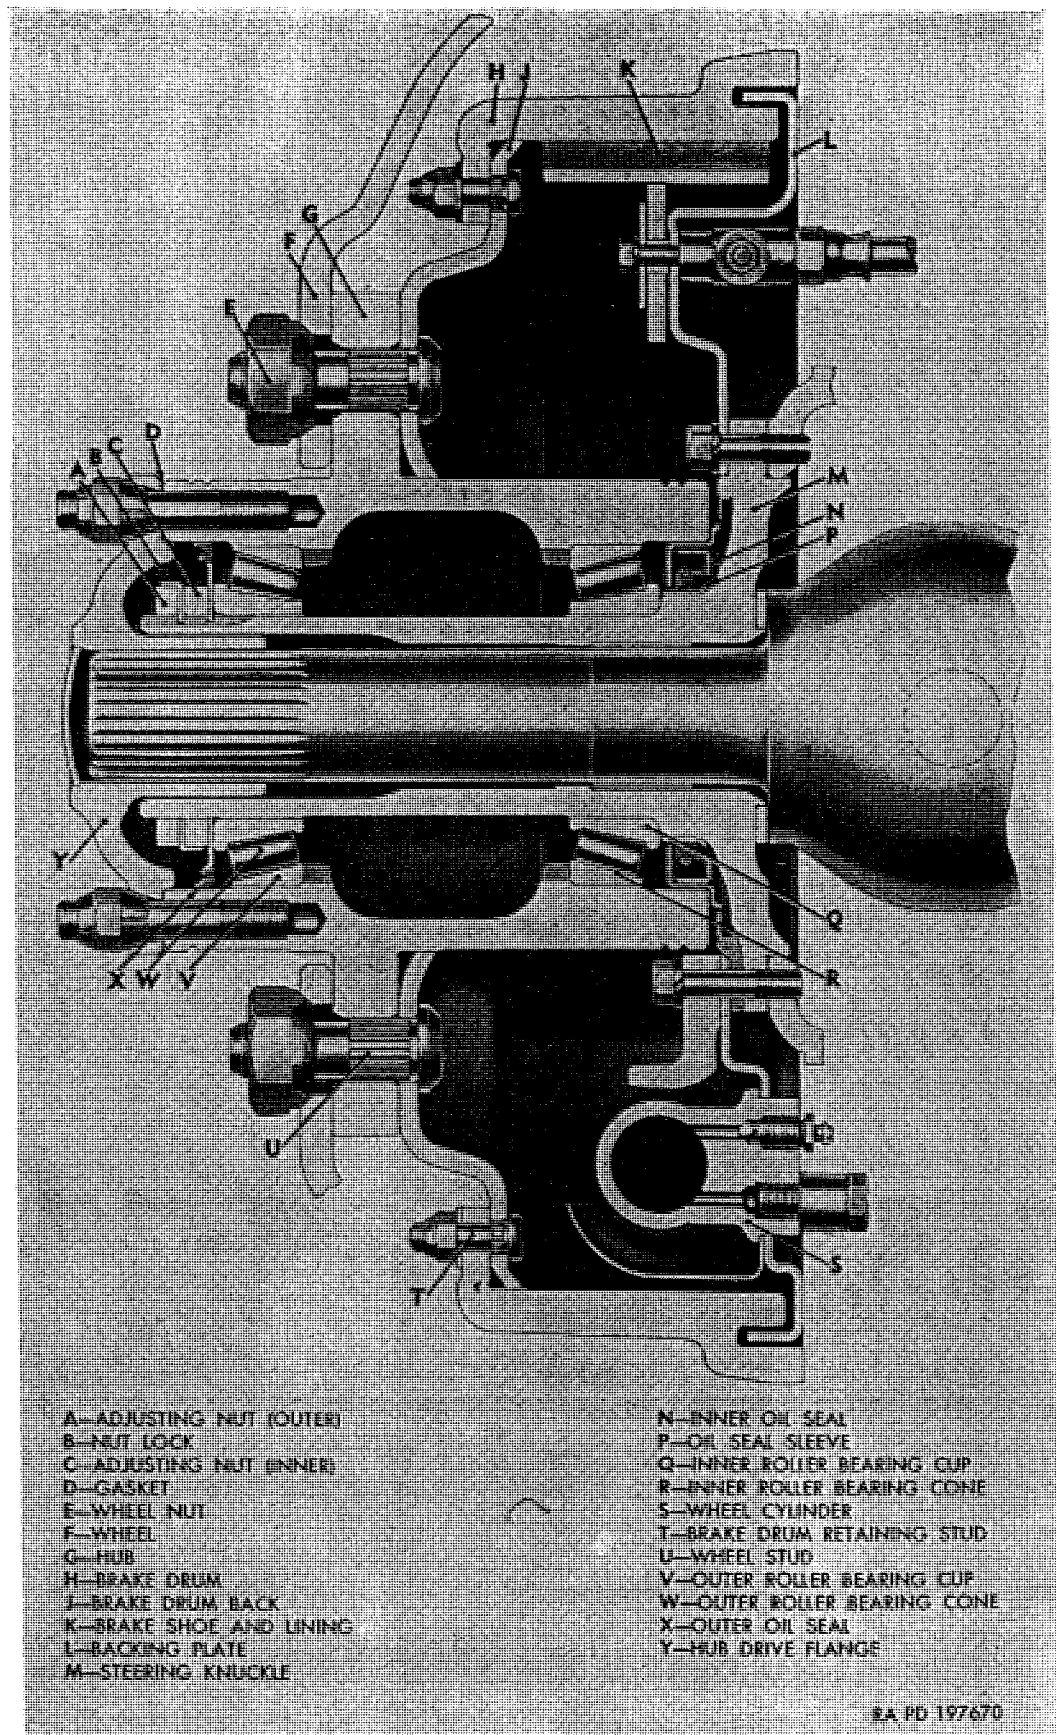
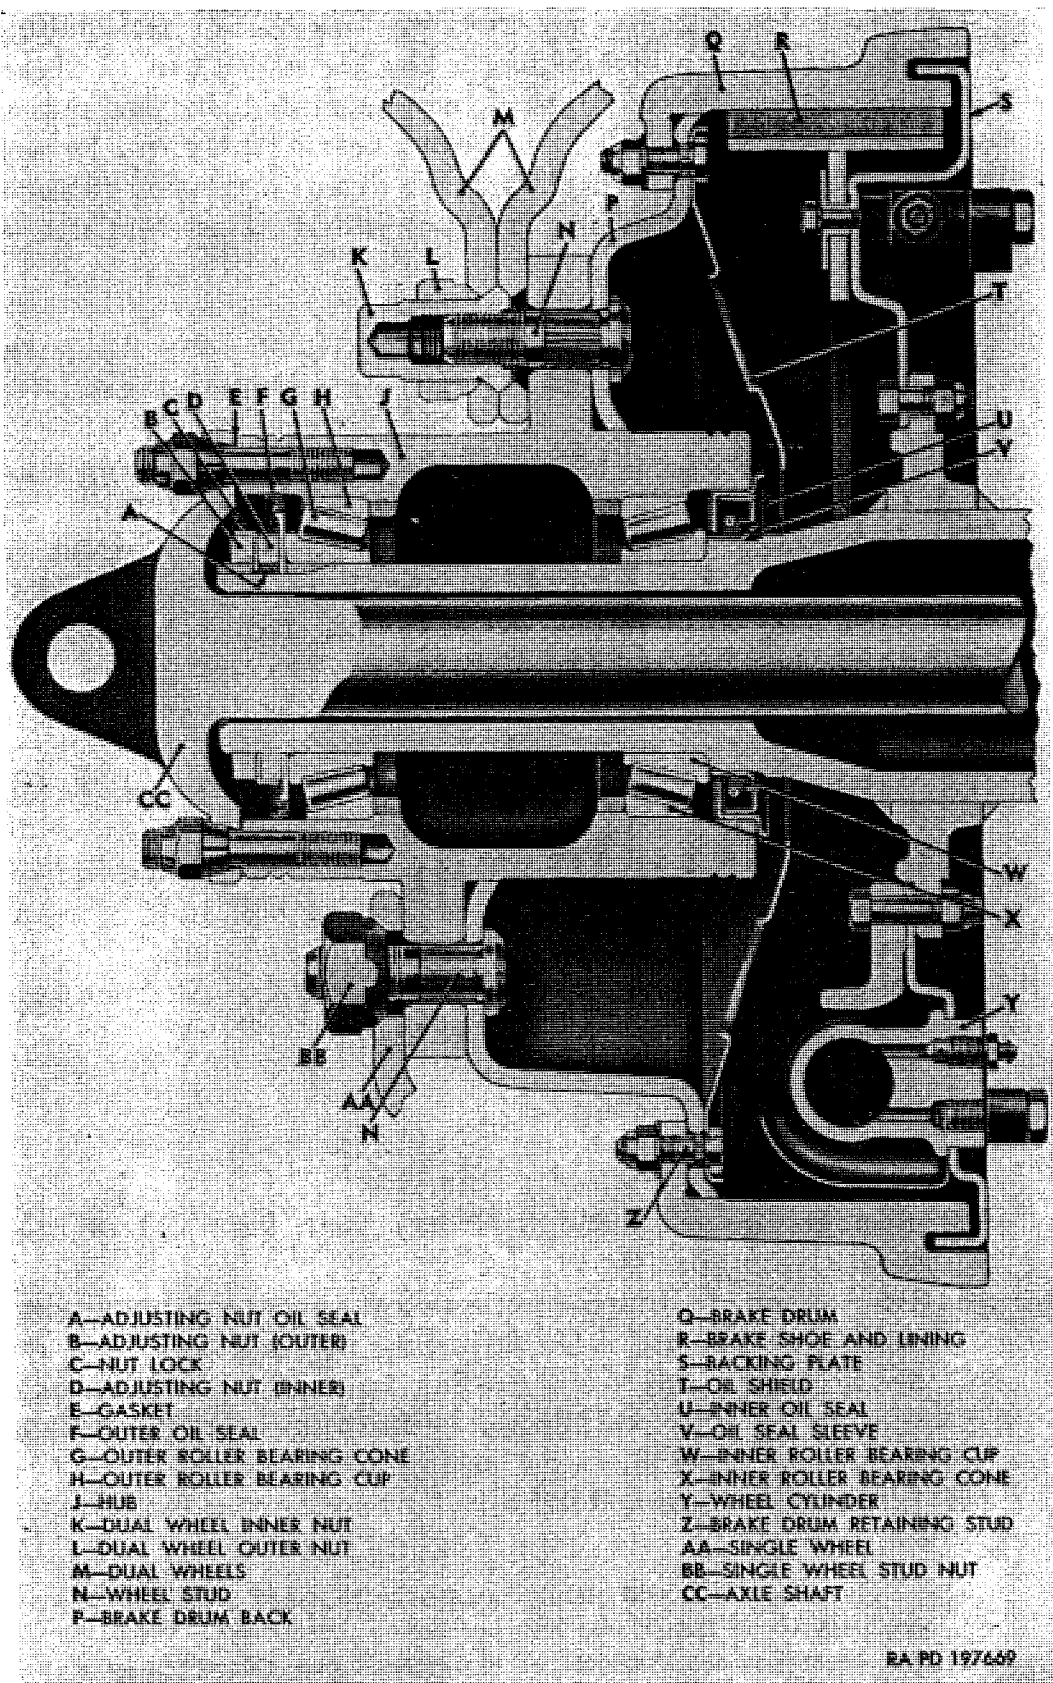
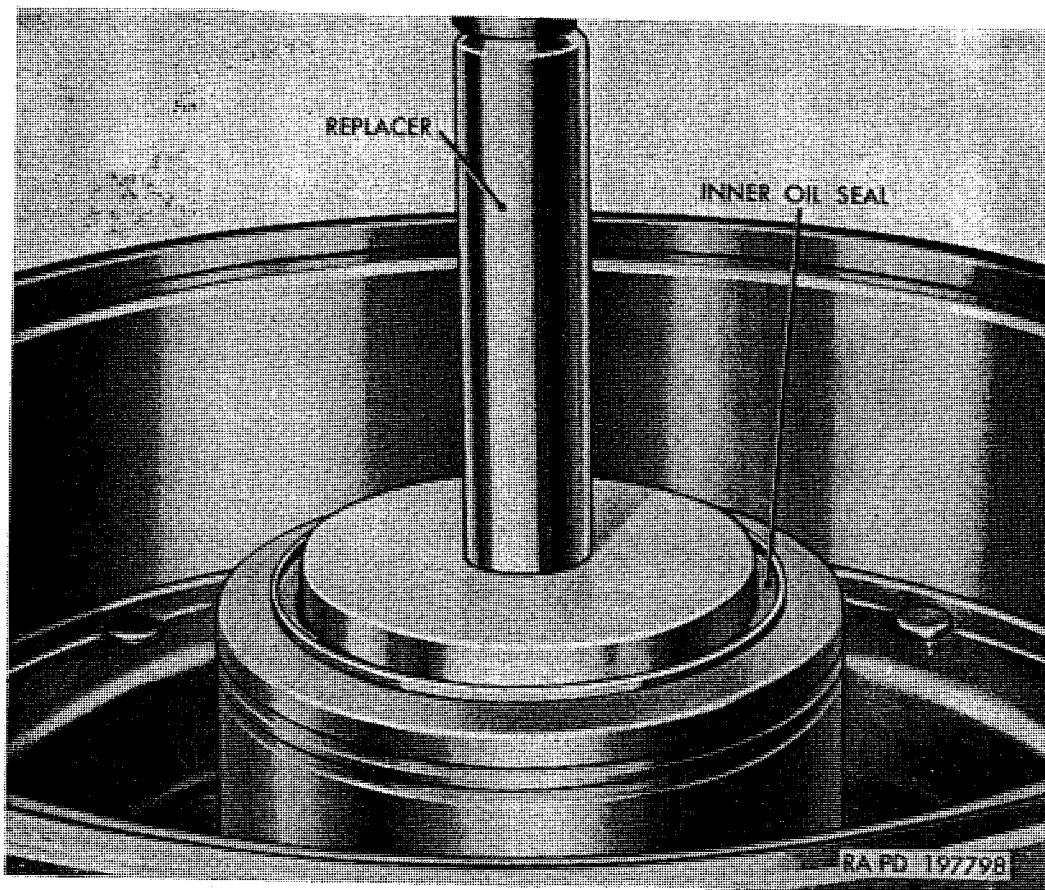

Figure 270. Front hub, bearings, and oil seals.
Figure 271. Rear hub, bearings, and oil seals.
Figure 274. Installing inner oil seal with replacer B7950766.
- (1) *Wheels.* Single front wheels are used on all models. Single rear wheels are used on M135, and dual rear wheels are used on all other models. Wheels are secured on each hub by six studs and nuts. Studs are pressed into hub flange. Wheels do not pilot on hub; taper on wheel nuts engage chamfered holes in wheel, positioning wheel concentric with hub. Wheel studs and nuts on left side of vehicle all have left-hand threads; studs and nuts on right side have right-hand threads. Front wheel installation on hub is shown in figure 270, and both single and dual rear wheel installations are shown in figure 271. One tire bead seat and flange is integral with the wheel rim. The removable tire retaining ring forms the other tire bead seat and flange.
- (2) *Tires.* Tires are designed for high or low pressure operation. All tires have military-type tread. All M135 trucks are equipped with 11.00/20, 12-ply tires; all other models are equipped with 9.00/20, 8-ply tires. Tire flap is used between tube and wheel rim.
a. Mounting. Front and rear hubs are mounted on opposed tapered roller bearings. Front hub bearings are mounted on steering knuckles as shown in figure 270. Rear hub bearings are mounted on axle housing tube as shown in figure 271. Bearing adjustment is accomplished by means of the bearing adjusting nuts which are locked in place by the adjusting nut lock.
- (3) Check bearing play by grasping tire at top and pulling back and forth or by using a pry bar under tire. If bearings are properly adjusted, movement will be just noticeable and wheel will turn freely; bearing play can be seen by observing movement of brake drum in relation to backing plate. If bearing play is excessive, adjust bearings (*b* below).
b. Bearing Adjustment (fig. 270 or 271).
- (1) Axle will be jacked up and axle shaft or drive flange removed after accomplishing bearing adjustment check (*a* above).
- (2) Bend tangs of nut lock away from bearing adjusting nuts. Remove outer adjusting nut and nut lock.
- (3) Using wheel bearing nut wrench C8390299 at front or C8390302 at rear with torque wrench, tighten inner adjusting nut to 60 to 75 pound-feet torque, at the same time rotating wheel to make sure all surfaces are seating properly. Back off nut three-eighths of a turn, or the distance of three hub drive flange studs.
- (4) At rear axles, make sure cork oil seal is in place inside adjusting nut in groove in axle housing.
- (5) Install nut lock, then install outer adjusting nut and tighten to 100 to 150 pound-feet torque. Secure both nuts by bending two tangs of nut lock over flats of each nut.
- (6) At rear axles, install axle shaft (par. 225*d*). At front axle, install hub drive flange (par. 221*d*(5)).
a. Hub and Bearing Removal (fig. 270 or 271).
- (1) Remove wheel (or wheels) (par. 259*b*).
- (2) Remove hub drive flange (front) (par. 221*b*(2)) or axle shaft (rear) (par. 225*b*).
- (3) Bend tangs of adjusting nut lock away from bearing adjusting nuts. Remove outer adjusting nut, nut lock, and inner adjusting nut from steering knuckle (front) or axle housing (rear). Pull hub and brake drum assembly straight off steering knuckle or axle housing.
- (4) Lift outer oil seal and outer roller bearing cone out of outer end of hub.
- (1) Place inner roller bearing cone in inner end of hub (fig. 270 or 271). Position new inner oil seal assembly on inner end of hub and drive into place with replacer B7950766 as shown in figure 274. Oil seal flange must seat firmly against inner end of hub.
- (2) Install hub and drum assembly on steering knuckle (front) or axle housing (rear), using care not to damage inner oil seal. Place outer roller bearing cone on steering knuckle or axle housing and press into outer end of hub with fingers. Install outer oil seal assembly on steering knuckle or axle